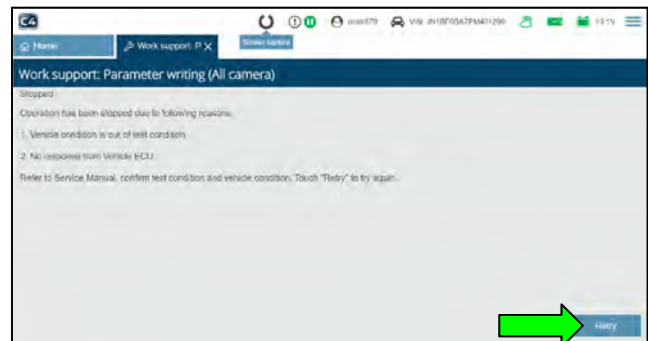

Figure 14
- If the **Parameter writing** was not successful (Figure 14):